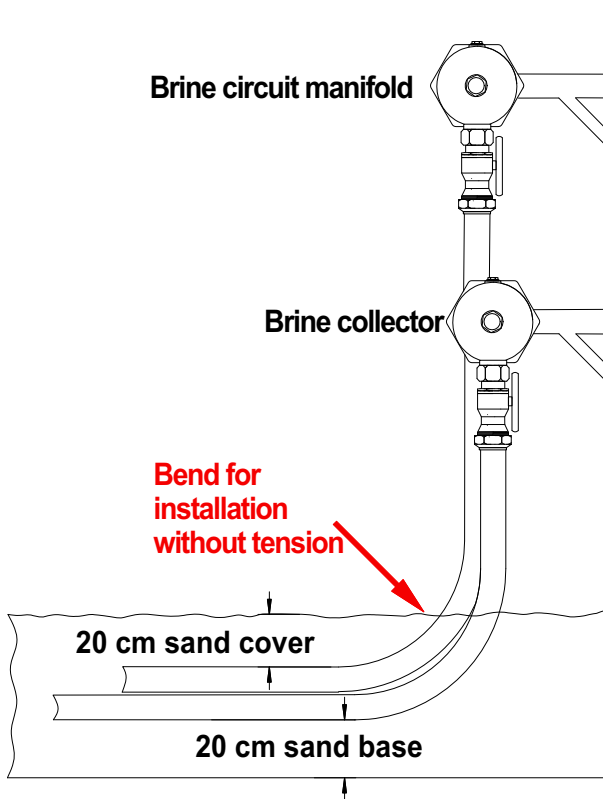
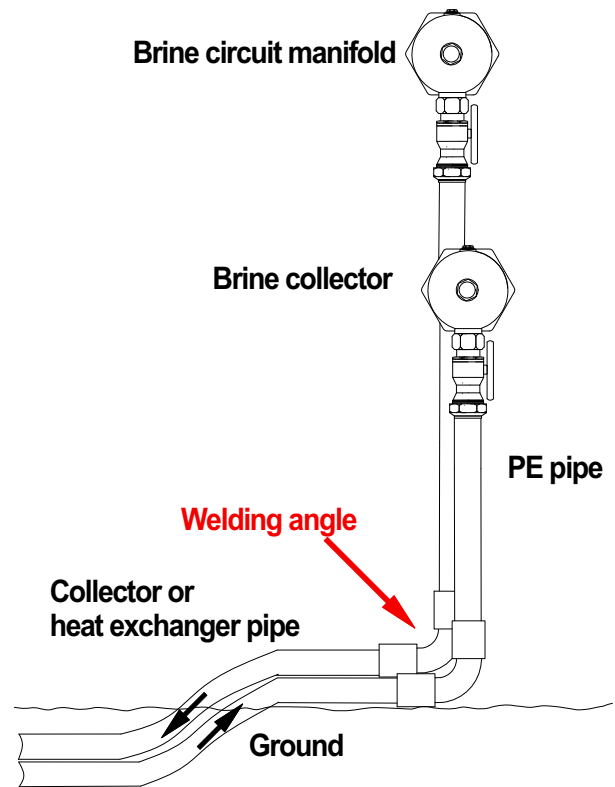

Fig. 5.5: Mounting the pipework on the brine manifold
Fig. 5.6: Mounting the pipework on the brine manifold with a welding angle
- For duct mounting, we recommend covering the collector or heat exchanger pipes in the ground with approximately 20 cm of sand and/or putting them on a 20 cm sand base (Fig. 5.5 on page 6). If a bend is used to compensate any length differences, this should be placed above ground level in this case (Fig. 5.6 on page 6)!